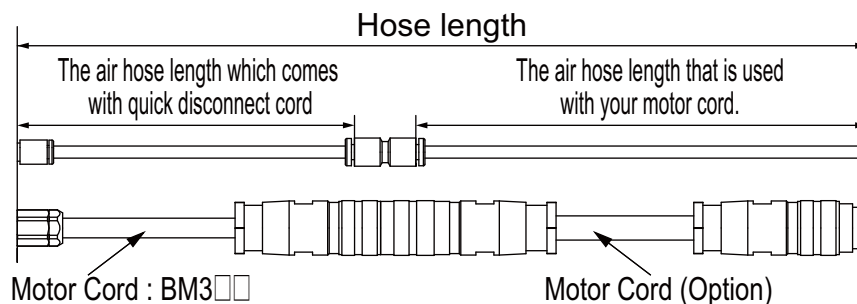

Fig. 29
(1) One Motor Spindle is connected to the Control Unit.	Air Pressure (MPa)	0.2		0.25			0.3
(2) Two Motor Spindles are connected to the Control Unit.		0.4		0.5						Not Allowed. *Note 2
*Note 1 : "Hose Length" indicates total hose length consisting of the Quick Disconnect Hose and the Motor Cord Hose. See Fig 29 to see how to calculate "Hose Length".